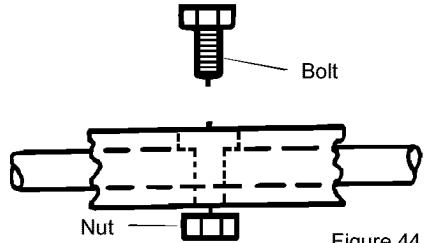

Figure 44
3. Align the hole in the auger with the hole in the auger shaft. Install the new **bolt** and **nut**. See Figure 44.